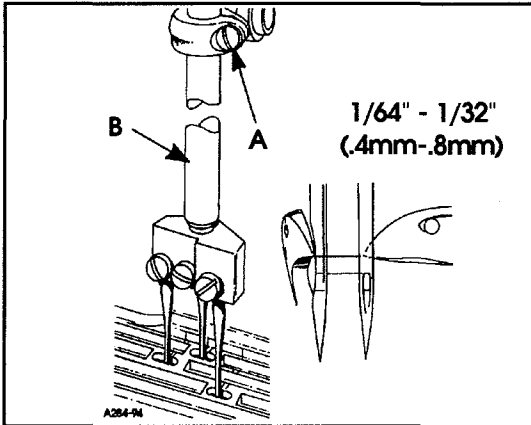

FIG. 9
The height of the needle bar is correct when the top of the needle eye is $1/64$ " to $1/32$ " (.4mm - .8mm) below the underside of the looper, with the looper point even with the right side of the needle. To make adjustment loosen screw (A, Fig. 9) and move needle bar (B) as required to attain dimension.